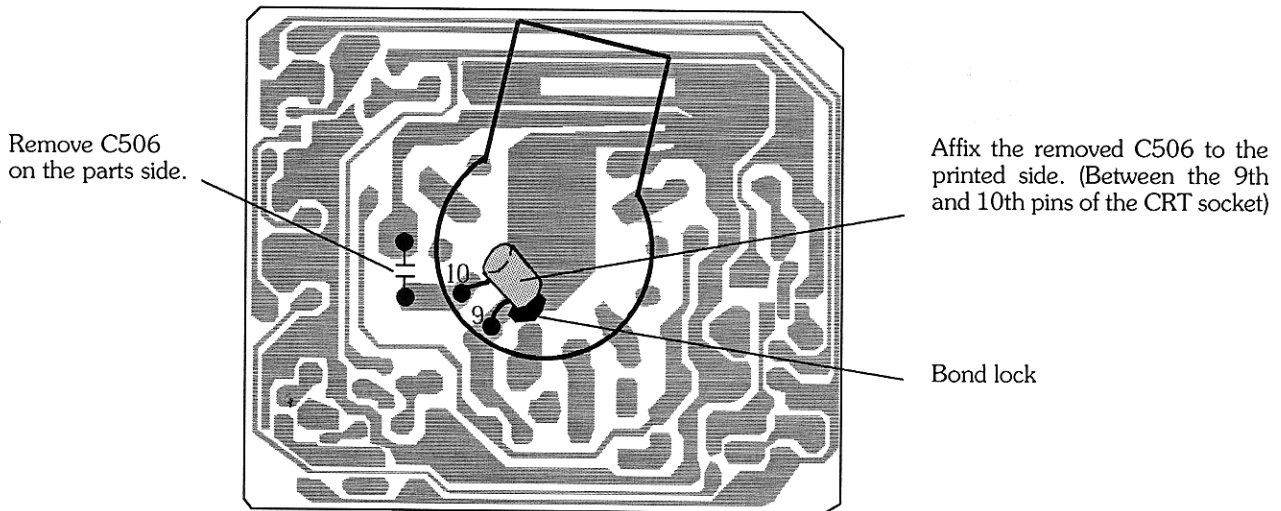

Figure 4: CRT C. B (Printed side)
4. Remove C506 mounted on the parts side, and affix it to the printed side as shown in Figure 4.